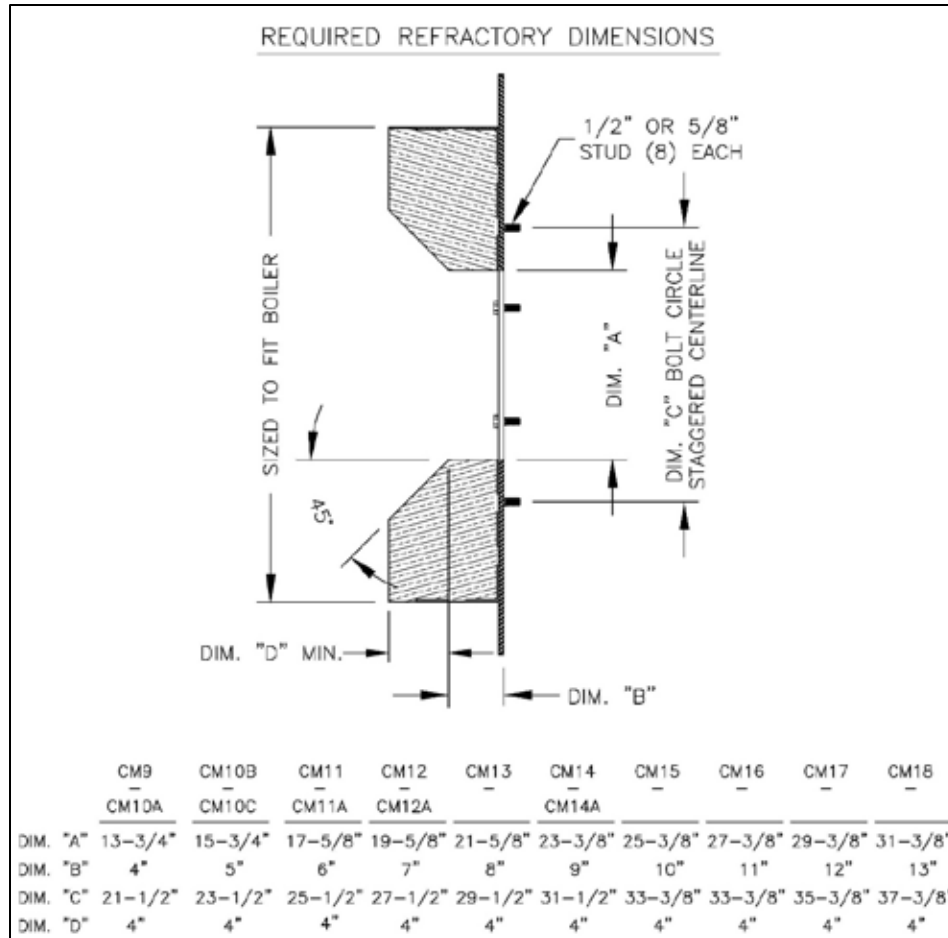

Figure 6: Burner Quarrel Dimensions
- 2.4.3 Provide a suitable burner front plate, consisting of a steel plate of ample thickness to support the weight of the burner and hold it firmly in alignment with the heat exchanger. The front plate must be protected from heat using high temperature refractory. The refractory (burner quarrel) must be formed as shown below in Figure 6.